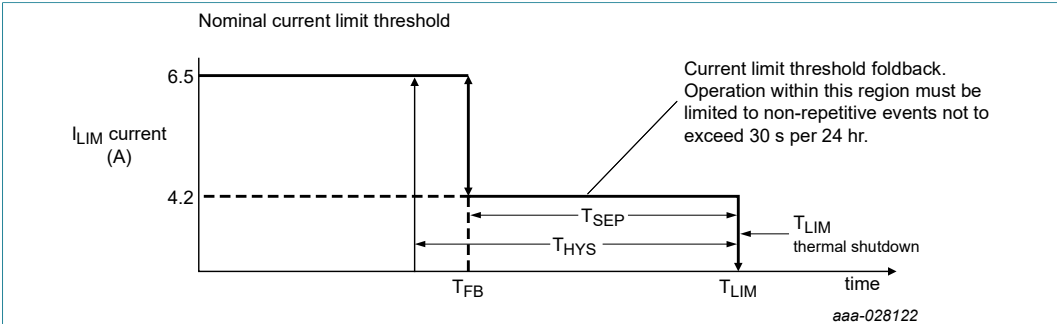

Figure 10. Output current limiting foldback region
- [9] Load currents ramping up to the current regulation threshold become limited at the I_{LIM} value (see Figure 8). The short-circuit currents possess a di/dt that ramps up to the I_{SCH} or I_{SCL} threshold during the I_{LIM} blanking time, registering as a short-circuit event detection and causing the shutdown circuitry to force the output into an immediate 3-state latch-off (see Figure 9). Operation in current limit mode may cause junction temperatures to rise. Junction temperatures above $\sim 160^\circ\text{C}$ causes the output current limit threshold to "foldback", or decrease, until $\sim 175^\circ\text{C}$ is reached, after which the t_{LIM} thermal latch-off occurs. Permissible operation within this foldback region is limited to non-repetitive transient events of duration not to exceed 30 seconds (see Figure 10).